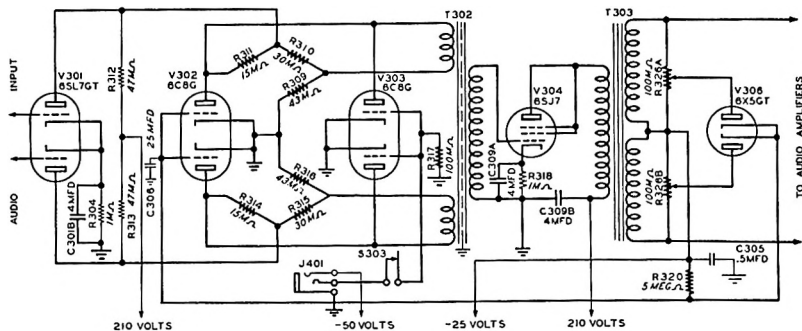

Figure 14. Limiter and Audio Amplifier Circuits
**2.9.3. Volume Limiter and 2nd Audio Amplifier.** Refer to figure 14. The volume limiter that is incorporated in this equipment has been designed to control the audio signal level and to give uniform speech amplifier output with a relatively wide variation of audio input. When the limiter control is properly adjusted, increasing the input to the preamplifier as much as 25 db will cause a rise in the speech amplifier output which will not exceed 3 db. The limiter circuit utilizes the principle of the familiar Wheatstone resistance bridge.